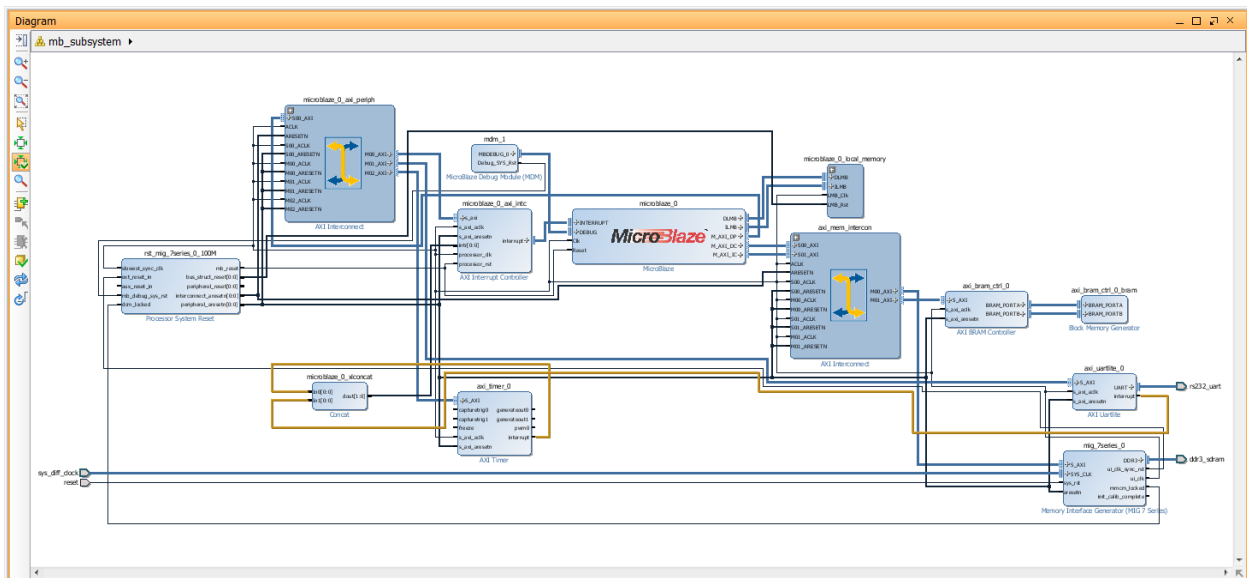

Figure 113: Block Diagram After Regenerating the Layout
3. Click the **Regenerate Layout** button  in the IP Integrator toolbar to generate an optimum layout for the block design. The block diagram should look like FIGURE 113.